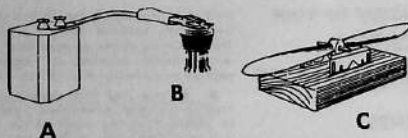

FIG. 1
4. Procure a 1½ volt Cox dry cell battery, or equivalent, and connect with 2 flexible insulated wires to the glow plug clip as shown in A and B-Fig. 1. Do not use a stronger battery. If you do, the plug will burn out. The connections should be soldered to insure good contact, and taped to prevent bare ends of wire from getting together and "shorting"
5. Balance and trim propeller. This is very essential for good performance. Sand off any bead of plastic along the edges of the blades. Fit a drill or shaft through the hole and rest the shaft on razor blades set in wooden blocks as shown in C-Fig. 1. Sand the heavy blade until the propeller will balance in a horizontal position. Care must be taken to do the sanding without spoiling the airfoil characteristics of the propeller blades. Caution: Use only nylon or wooden props. Styrene props are extremely dangerous on these engines.
5. Connect the battery by snapping the clip on the glow head, B-Fig. 1.